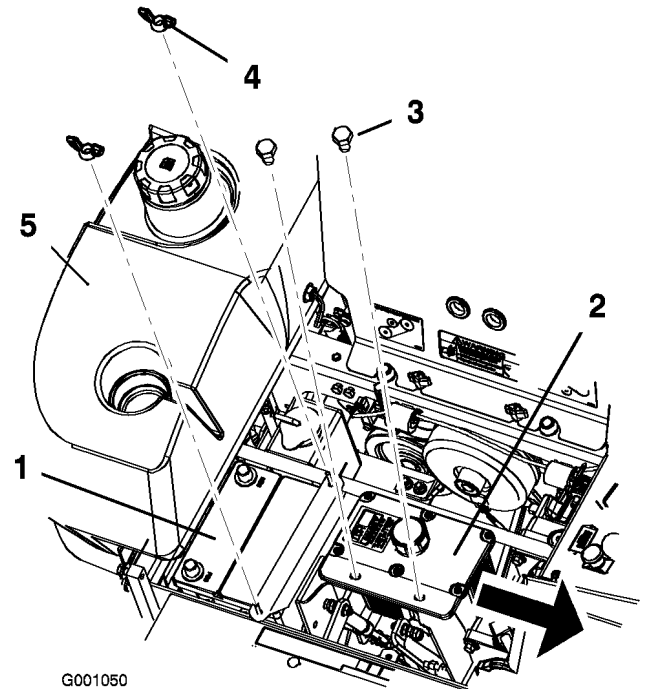

Figure 45
6. Remove both wing nuts (1/4 inch) securing the battery clamp (Figure 45).
7. Remove the two bolts holding the hydraulic tank in place (Figure 45).
1. Position battery in the tray with the terminal posts opposite from the hydraulic tank (Figure 45).
6. Secure battery with J-bolts, hold down clamp and 2 washers (1/4 inch), and 2 wing nuts (1/4 inch) (Figure 45).